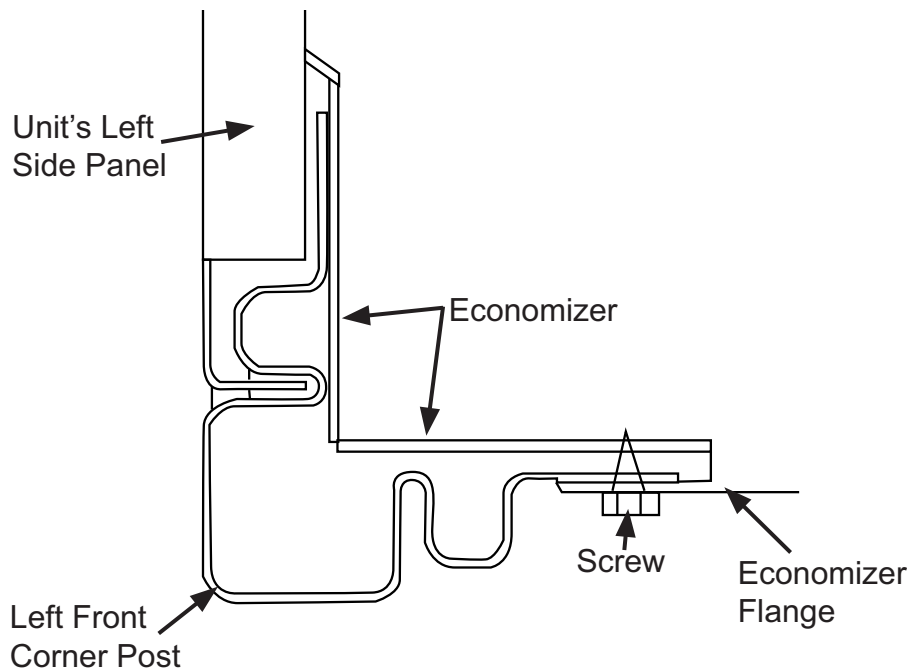

Fig. 5 — Top View
NOTE: The corner post will sit behind the economizer flange. (See Fig. 5.) Screw through the corner post and through the economizer. (See Fig. 5 and 6.)
6. Reinstall the left side corner post on to the unit. NOTE: The corner post will sit behind the economizer flange. (See Fig. 5.) Screw through the corner post and economizer. (See Fig. 5 and 6.)